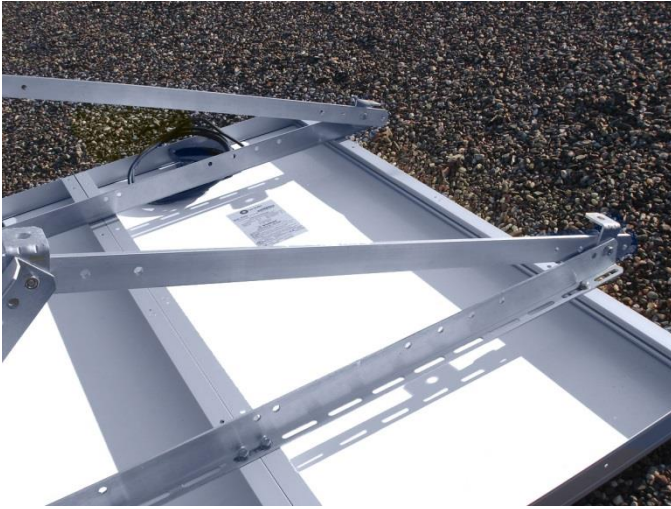

Figure 38: Assemble the Support Bar to the Mounting Frame
8. The support bar may also be attached to each side of the Mounting Frame, as shown in Figure 38.